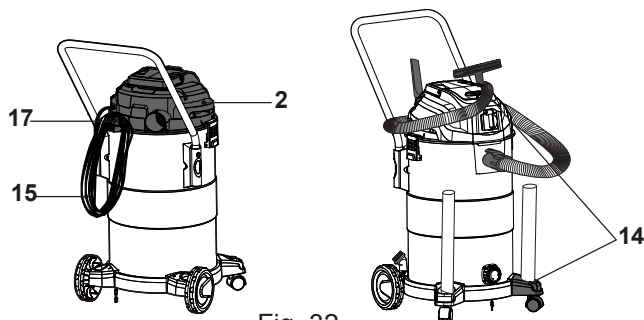

Fig. 32
- > Disconnect the respective attachment (20, 21, 23), hose (18) and extension tube(s) (19) if necessary.
- > To wash out the tank, use clean water instead of detergent. Do not immerse the tank (4) in water.
- > Once dry, we recommend putting the attachments onto the attachment storage (14) and storing the power cord (15) on the hook (17) of the motor unit (2) (Fig. 32).
- > We recommend putting the attachments onto the attachment storage (14) and storing the power cord (15) on the hook (17) of the motor unit (2) (Fig. 32).